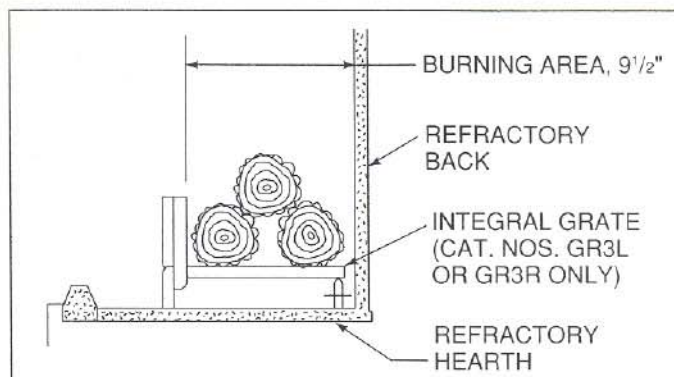

Figure 21
- E. **GRATE.** The factory installed Integral Grate must be used to hold the logs from falling out of an open fireplace and to allow air to pass between the burning logs. It is important to keep the fire off the hearth and to allow the ashes to collect beneath the fire, thereby forming a layer of additional heat protection. See Figure 21. Use only Catalog Number GR3L or GR3R Integral Grate for replacement.
- H. **SETTING THE FIRE.** Check the flue damper to be sure it is fully open. Place crumpled or twisted paper under the Grate. Loosely arrange kindling or small pieces of wood to form a layer above the paper. Place three logs in a rough pyramid as shown in Figure 21, being sure to allow free air space between the logs. Small sticks of wood may be used to separate the logs. Use only solid wood fuel or listed decorative gas appliance. Do not use a fireplace insert or other products not specified for use with this fireplace. **NOTE:** When heated the first time, the temperature of the fireplace must be raised gradually, to prevent moisture within the refractory from causing cracks, and to allow the binders in the insulation to dissipate.